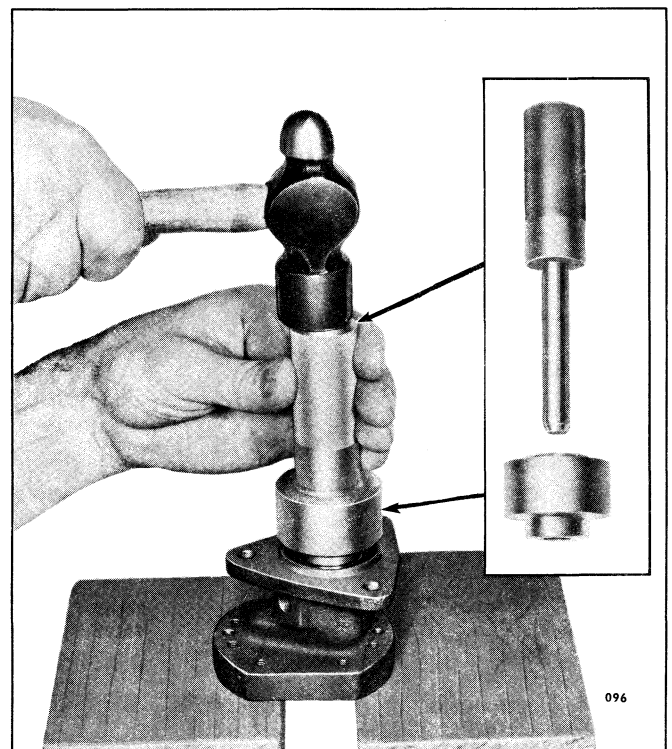

Fig. 11 - Installing Outer Oil Seal in Fuel Oil Pump Body with Tools J 1508-8 and J 1508-9
c. Place the shorter end of the adaptor J 1508-9 over the pilot and against the shoulder of the installer handle (Fig. 11). Place the outer oil seal on the pilot of the installer handle with the lip of the seal facing the adaptor. Then, insert the pilot of the installer handle into the pump body and drive the seal in until the shoulder of the adaptor contacts the pump body. Thus, the oil seals will be positioned so that the space between them will correspond with the drain holes located in the bottom of the pump body.